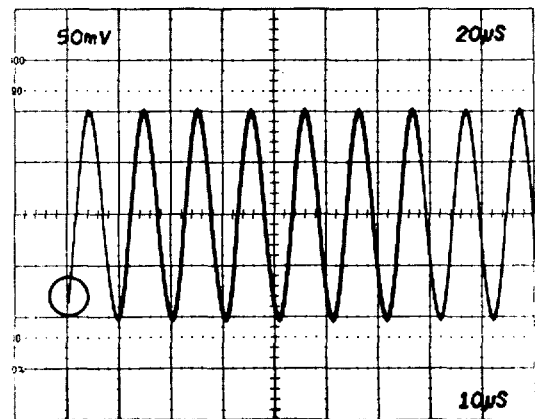

Fig. 5-10. Trigger sensitivity (Circle denotes correct point)
a. Adjust-Trig Sens, R125, for a sweep trigger point at approximately 0.5 division from bottom of waveform as MAIN TRIGGERING LEVEL control is rotated through negative (-) portion of its range. See Fig. 5-10 for reference.
a. Adjust-Trig Sens, R325, for a Delayed sweep trigger point at approximately 0.5 division from bottom of waveform as Delayed Triggering LEVEL control is rotated through negative (-) portion of its range. See Fig. 5-10 for reference.